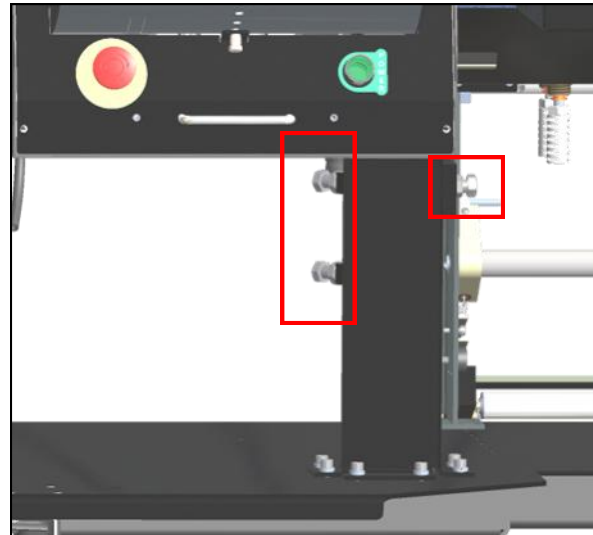

Figure 35A. Height Adjustment Bolts.
1. Loosen height adjustment bolts located on the Frame Upright. **Figure 35A.**